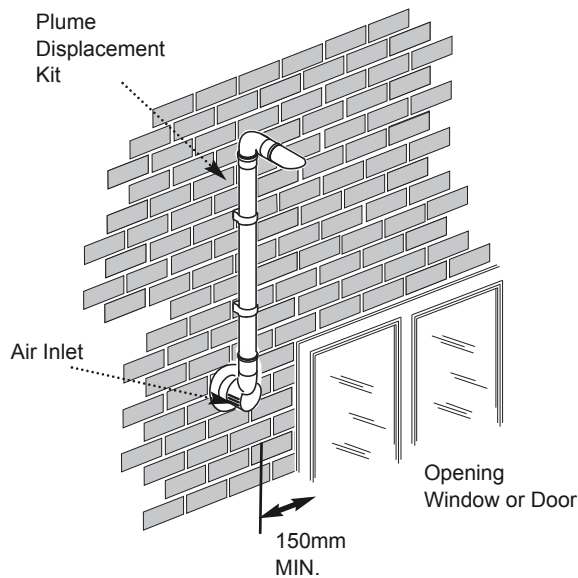

Fig. 13
**i** If fitting a Plume Displacement Flue Kit, the air inlet must be a minimum of 150mm from any opening windows or doors (Fig. 13).